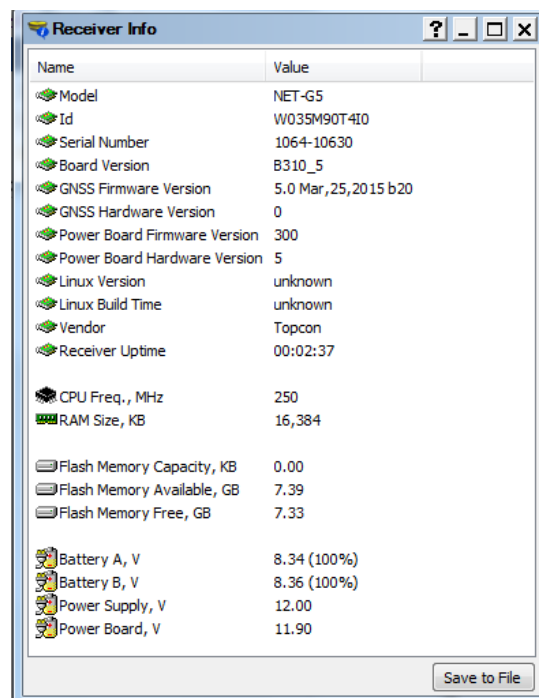

Figure 19: Receiver Info Displays the Current Firmware
- Click **Information**. The **Receiver Info** screen appears showing the current firmware loaded to the device (Figure 19).